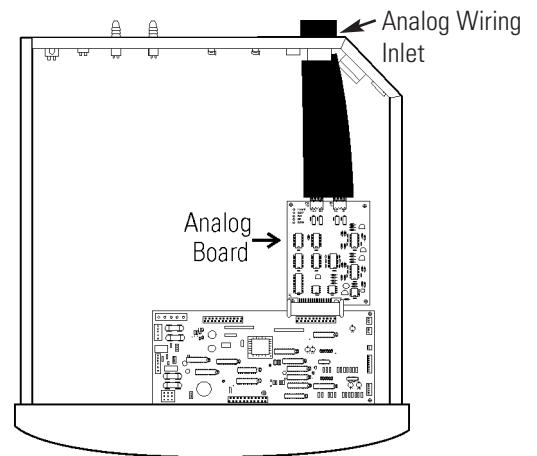

Figure 6-5. Analog Wiring Inlet
3. Each system monitored (Temp, CO₂, O₂, RH) requires two conductors. Feed the wire through the analog wiring inlet on the back of the drawer. See Figure 6-5.